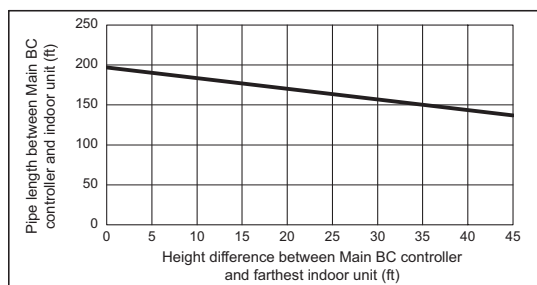

Fig. 2
*2. Details refer to Fig. 2.
*7. When the piping length or the vertical separation exceeds the limit specified in Fig. 2, connect a sub BC to the system.
When using indoor models M54 or larger, the restrictions shown in Fig. 2 cannot be exceeded.